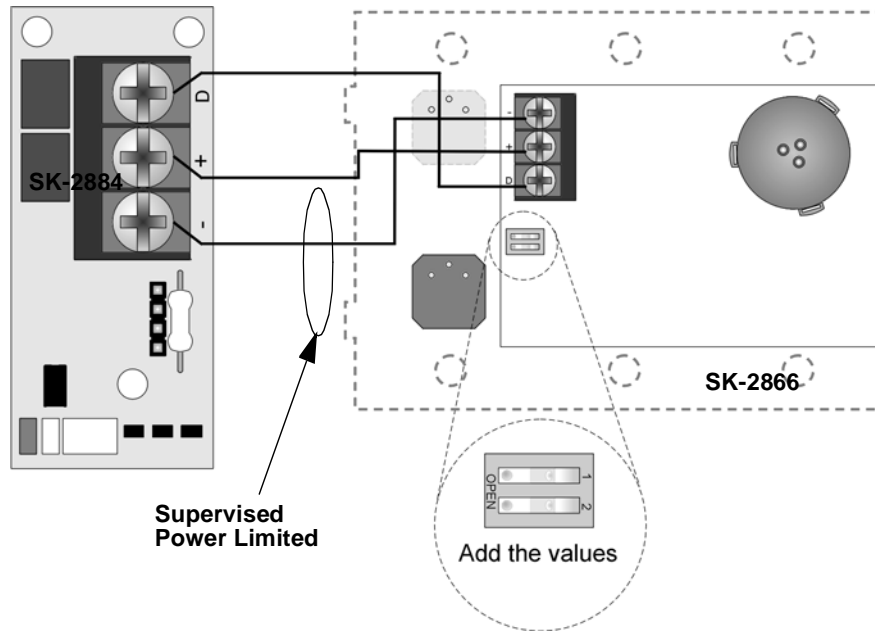

Figure 4-9 Model SK-2866 Connection to the SK-2884
3. Terminate the wiring as shown in Figure 4-9. See also Table 4-2.
The range of valid addresses is 0-3. Each device requires a unique address. Set the dip switches as shown in Table 4-3. See also Figure 4-9.
1. Make sure that the SK-2866 is properly wired to the control panel. See Figure 4-9.